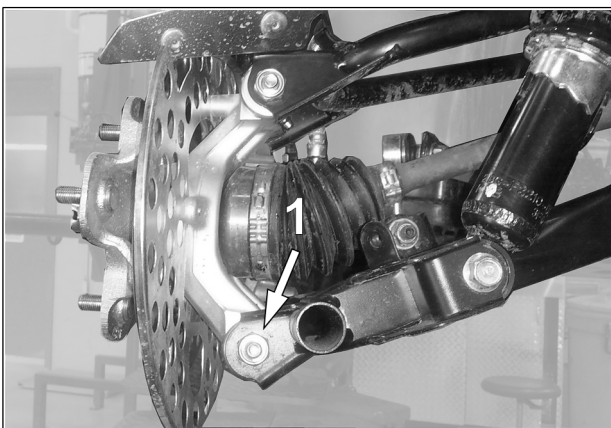

Fig. 6
5. Remove the mounting bolt (**1**) linking the lower suspension arm to the wheel hub. See Fig. 6